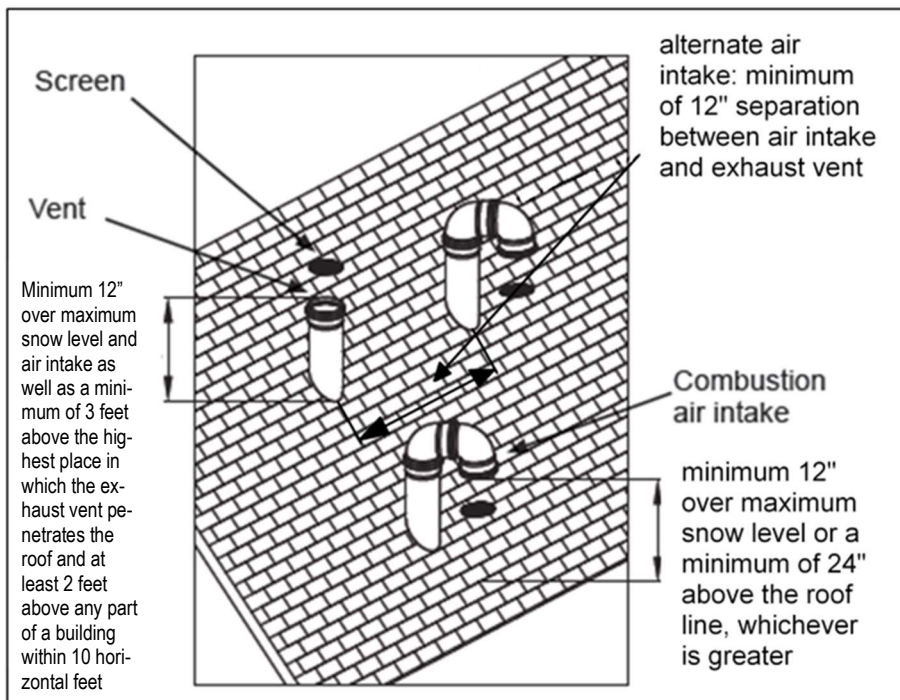

Figure 11.23
1. When terminating multiple water heaters, terminate each vent/air connection as described in this manual (figures 11.23, 11.24 and 11.25).